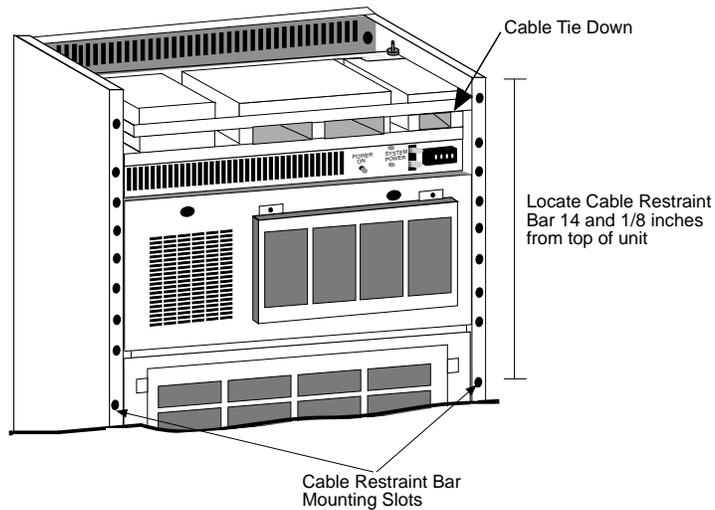

Figure 2-6. Installing the Cable Restraint Bar
9. Install the cable restraint bar on the rear of the unit as shown in Figure 2-6 on page 2-11. This bar is to be installed in the bottom-most mounting holes on the unit and is secured with 2 #10 screws.
7. Install the cable restraint bar on the rear of the unit as shown in Figure 2-6 on page 2-11. This bar is to be installed in the bottom-most mounting holes on the unit and is secured with two #10 screws.
8. Install the cable restraint bar on the rear of the unit as shown in Figure 2-6 on page 2-11. This bar is to be installed in the bottom-most mounting holes on the unit and is secured with two #10 screws.